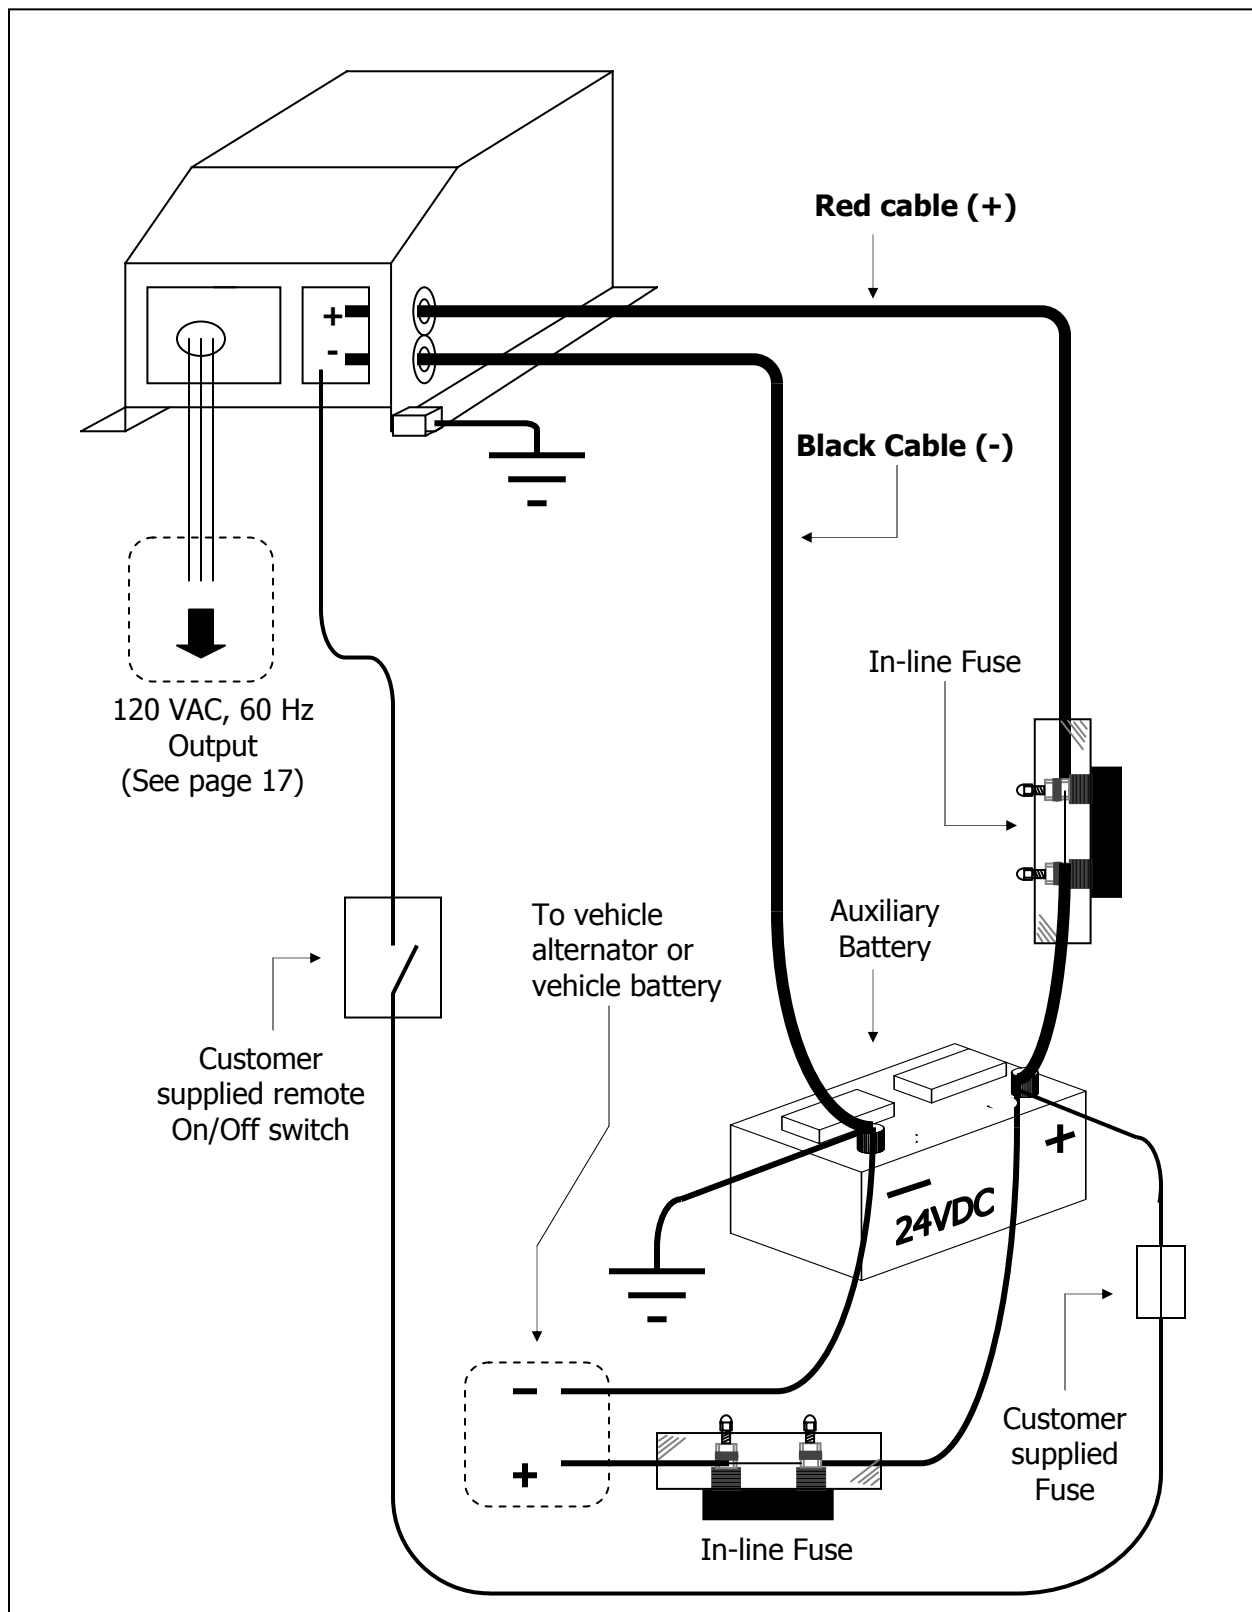
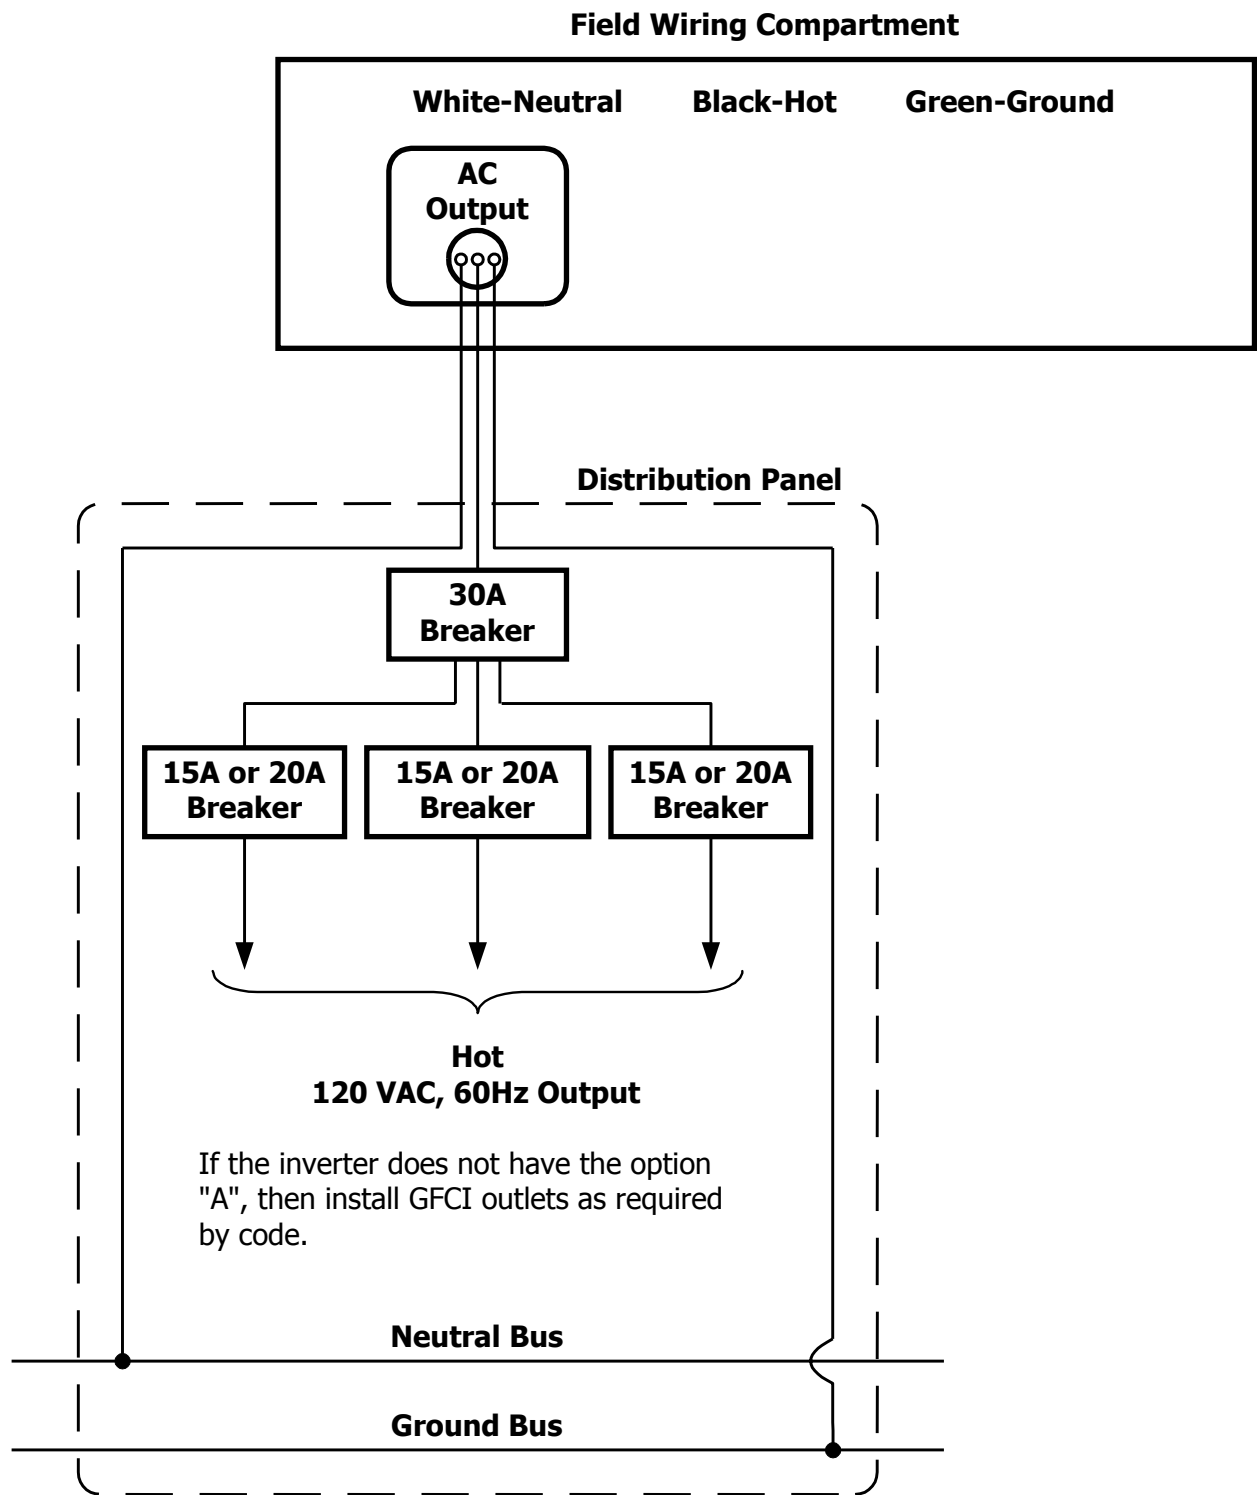

FIGURE 7: DC Wiring Diagram
FIGURE 8: AC wiring diagram
Reference figure 7, page 16 DC wiring and figure 8, page 17 AC wiring diagram.
- a) Refer to Figure 7: DC wiring diagram.
- (b) Locate the set of 3 output wires labeled "AC Output": Black wire (Hot), White wire (Neutral) and Green wire (ground). See figure 8, page 17.